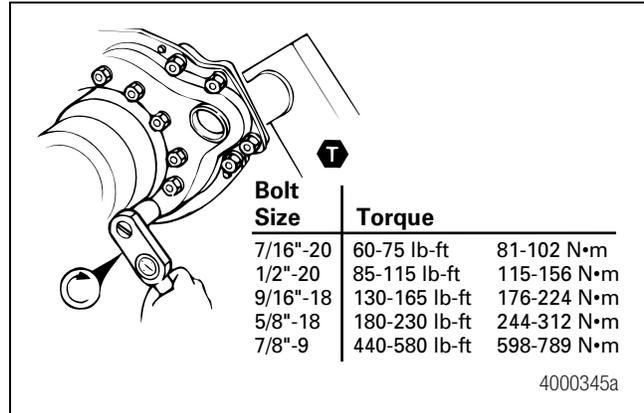

Figure 5.15
1. If removed, install the spider onto the axle housing flange. Align the marks you made on the spider and flange during removal. Install the spider-to-flange capscrews. Tighten the capscrews to the torque specified in Figure 5.15. **ⓘ**
2. If removed, install the seal and bracket onto the spider. Install the bracket fastener. Tighten the fastener to the torque specified in Figure 5.15. **ⓘ**
3. If the spider was not removed, check the torque of the spider-to-flange capscrews. Tighten the spider capscrews to the torque specified in Figure 5.15. **ⓘ**